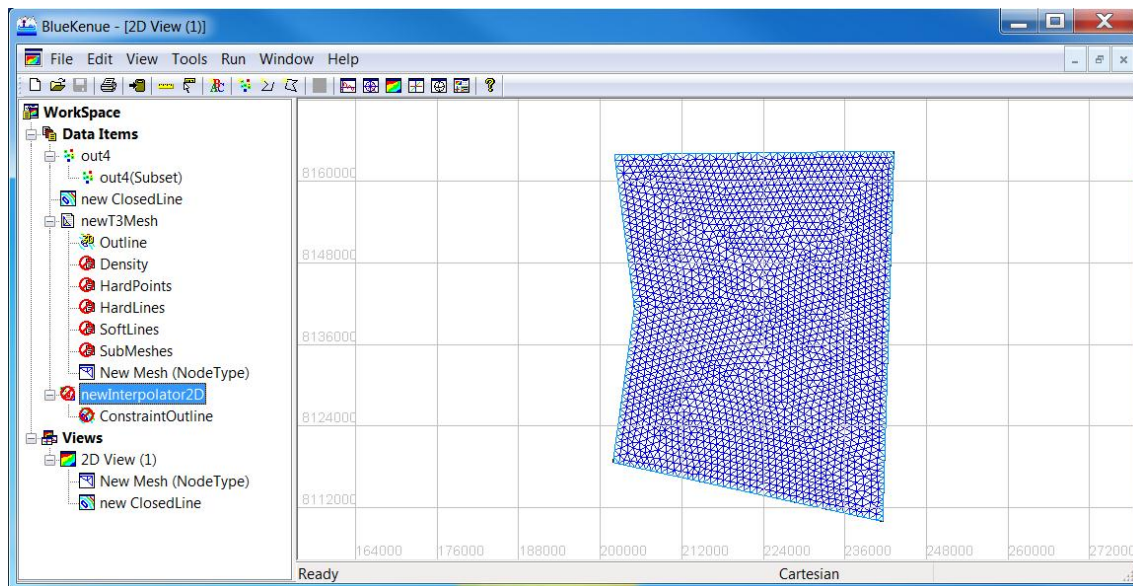

Figure A111: Create New 2D Interpolator.
8. Select File>New 2D Interpolator (Figure A111) Page 92